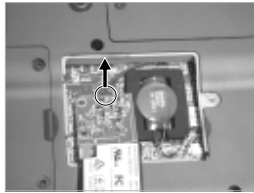

Figure 2-17 Disconnect the cord
4. Lift up the modem card and disconnect the cord. (Figure 2-17)